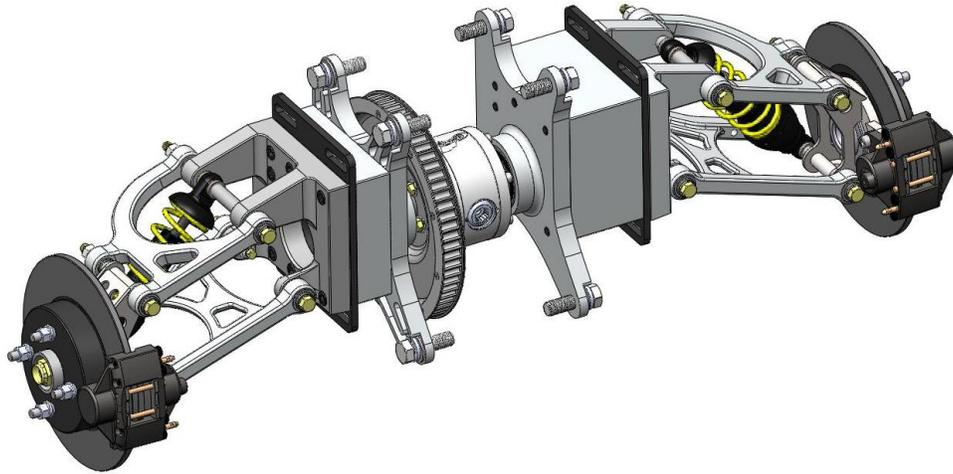

Figure 10 Rear View
- Remove the 2 rear connector tubes and the one front top connector tube and position drive belt onto the rear pulley. See Figure 10